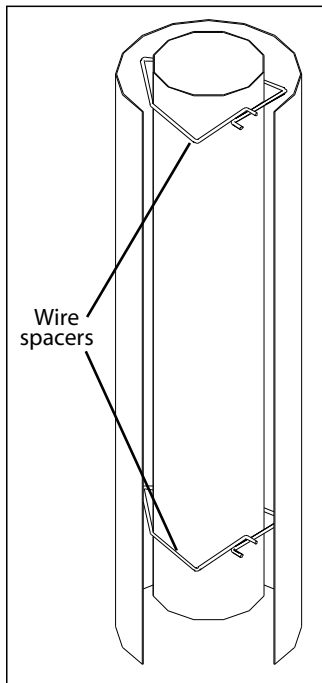
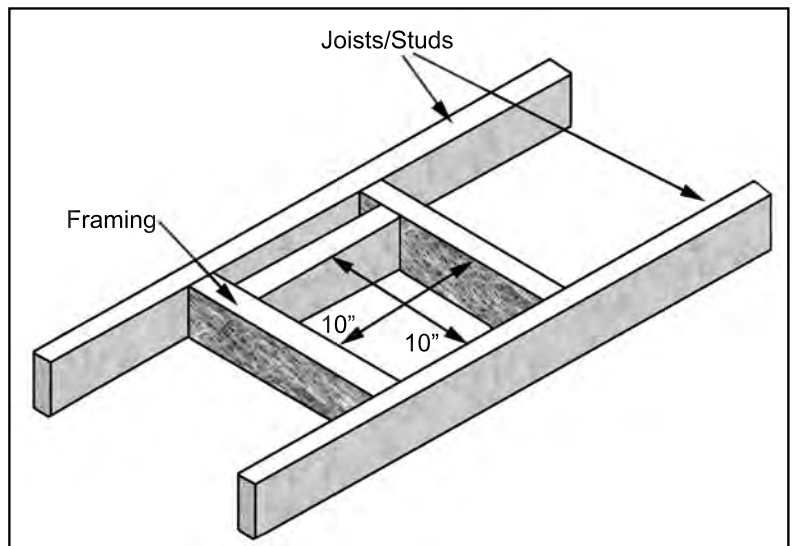
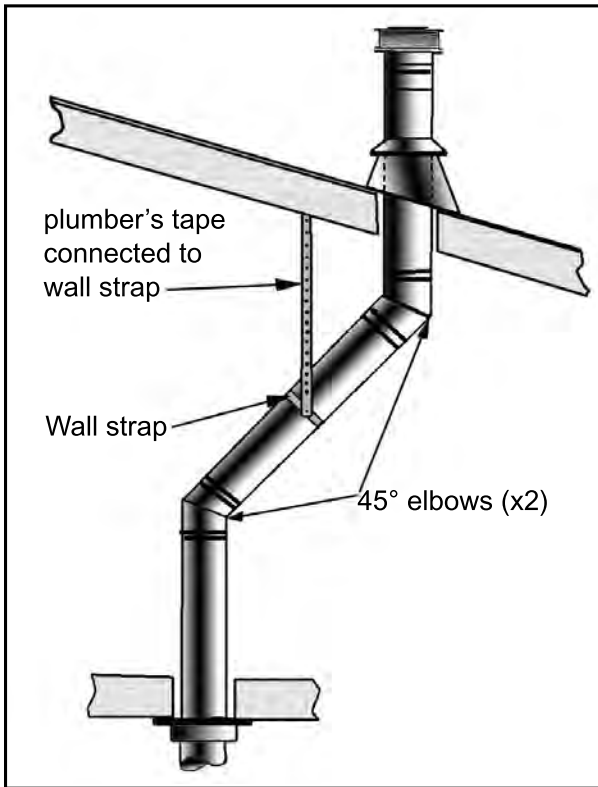
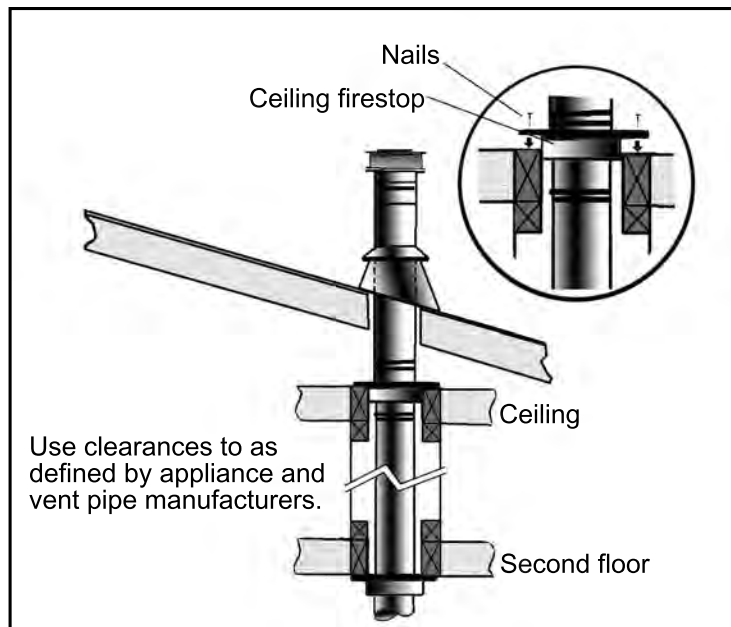

Figure 23: Wire Spacers.
Figure 27. Vent Framing Through Wall/Ceiling.
Figure 33: Use of Wall Straps.
Figure 34: Multi-Story Vent Pipe Installation.
4. Frame the hole as shown in Figure 27.
5. Trim the Wall Thimble to match the wall thickness as necessary. Install the wall thimble and secure it to the inner wall frame using four (4) 1½" wood screws.
8. Slide the Ø6⁵/₈" (16.25 cm) flex intake liner over the flex vent. Install four (4) wire spacers around the flex pipe. Ensure the wire spacers are positioned at either end of the pipes, and at each end of any elbows in the liners (refer to Figure 23 and 24).
Figure 23 shows the range of venting options, it shows possible vent configurations if the unit is top vented, for vertical and horizontal terminations, any layout that remains within the shaded area is acceptable. Having the fewest number of elbows is ideal, as they tend to disrupt air movement. Using 45° elbows is preferable to using 90° elbows. Also, a shorter vent system will perform better than a longer one.
Step 3. With the pipe in the correct position and attached to the fireplace, mark the wall for a 10 inches (25.4 cm) x 10 inches (25.4 cm) square hole (see Figure 27). The center of the hole should match the center line of the horizontal pipe. Cut and frame the hole in the exterior wall where the vent will be terminated. If the wall being penetrated is made of a non-combustible material (i.e. masonry or concrete) a 7 inches (17.8 cm) hole is acceptable.
Step 3. To install the Round Support Box/Wall Thimble in a flat ceiling, cut a 10 inch (25.4 cm) square hole in the ceiling, centered in the hole drilled in Step 2. Frame the hole as shown in Figure 27.
- (1) If an offset is necessary in the attic to avoid obstructions, it is important to support the vent pipe every 3 feet (914 mm), to avoid excessive stress on the elbows, and possible separation. Wall straps are available for this purpose (see Figure 33).
- (2) When ever possible, use 45° degree elbows instead of 90° degree elbows. The 45° degree elbow offers less restriction to the flow of flue gases and intake air.
- (3) For multi story installations; a ceiling firestop is required at the second floor, and any subsequent floors (see Figure 34). The opening should be framed to 10" (254 mm) x 10" (254 mm) inside dimensions, in the same manner as shown in Figure 27.
- (4) Any occupied areas above the first floor, including closets and storage spaces, which the vertical vent passes through, must be enclosed. The enclosure may be framed and sheet-rocked with standard building materials. However consult the appliance manufactures installation instructions for the minimum allowable clearance between the outside of the vent pipe, and the combustible surfaces of the enclosure. Do not fill any required air spaces with insulation.